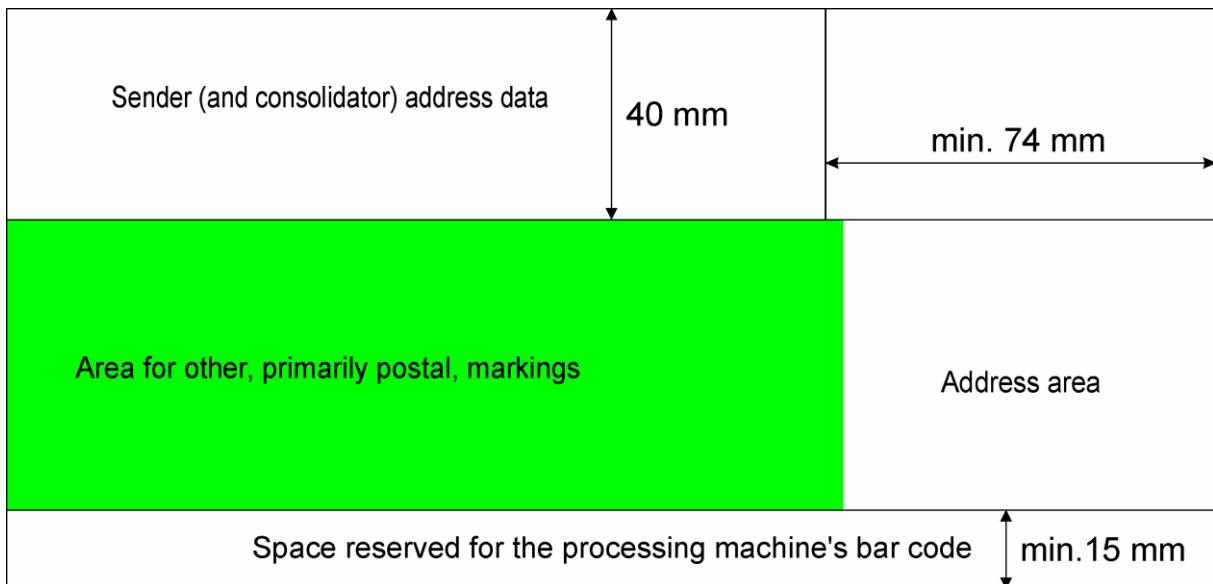

Figure 18: Area for postal markings on ordinary and medium-sized items
- d) Area for the addressee's address data (*marked green in Figure 18*).